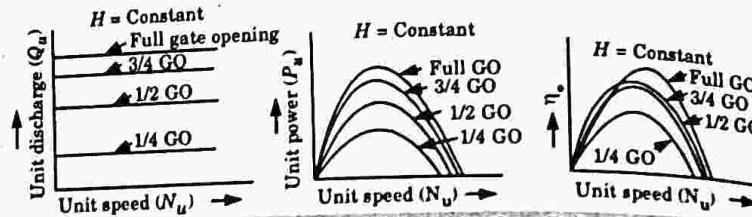

Fig. 5.26.1. Main characteristic curves for a Pelton wheel.
a. These are obtained by maintaining a constant head and a constant gate opening (GO) on the turbine.
c. These curves are drawn between the unit quantities. Curves are shown in Fig. 5.26.1.